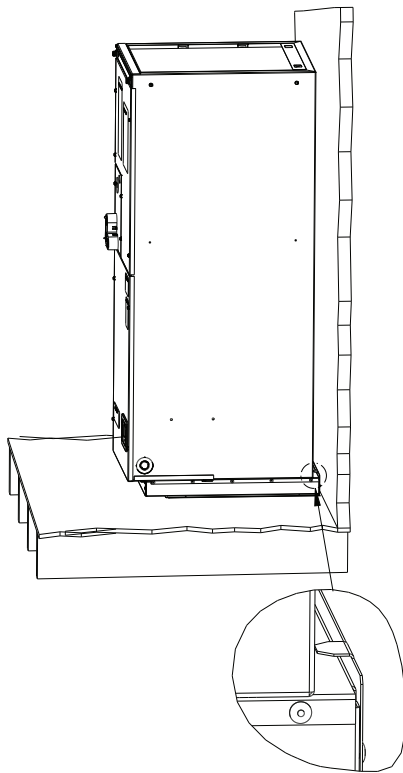

Fig. 4 – Unit Placement
- 8 Slide the unit to the back of the base. Make sure the tabs go into the slots of the casing when you slide the unit back. See Fig 4.